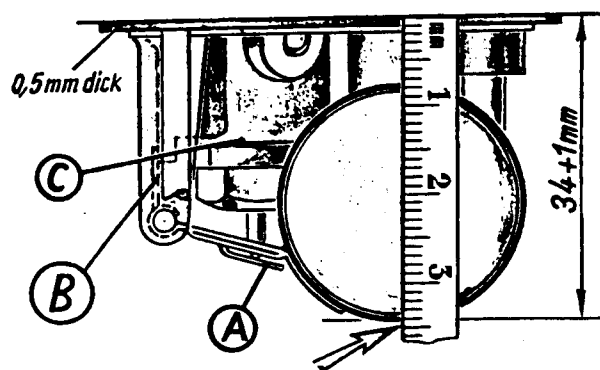

Fig. 126. Float valve open
In order that the float valve opens wide enough, the position of the stop lever (B) is of importance. The measure of  $34 + 1$  mm shown in Fig. 126 — measured from the sealing face of the casing to the lower edge of the float — must also be set correctly, otherwise an insufficient amount of fuel will be fed in full load operation and the engine will stall or the maximum speed will not be attained.